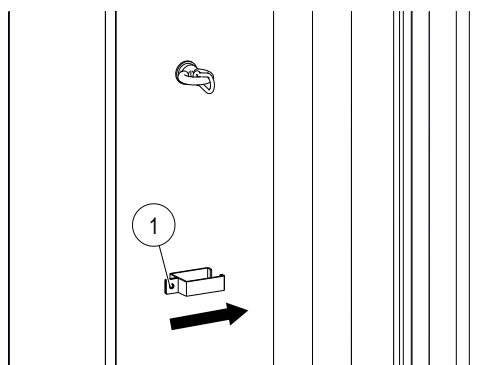
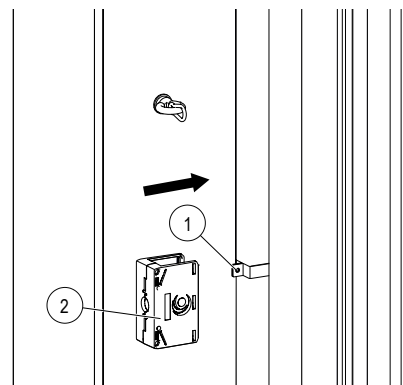

Fig. 37: Clip the retaining plate (Item 1) of the fall arrest device into the rail.
Fig. 38: Hang the housing halves (Item 2).
- Clamp the retaining plate halves (Item 1) of the fall arrest device over the insulating profile. Hold the retaining plate halves with one hand, and hang the housing halves in the direction of the arrow (Item 2) (see Fig. 37 and Fig. 38) with the other hand. Ensure that the screw heads of the cylinder screws face outward, i.e., they are turned away from the customer's support structure.